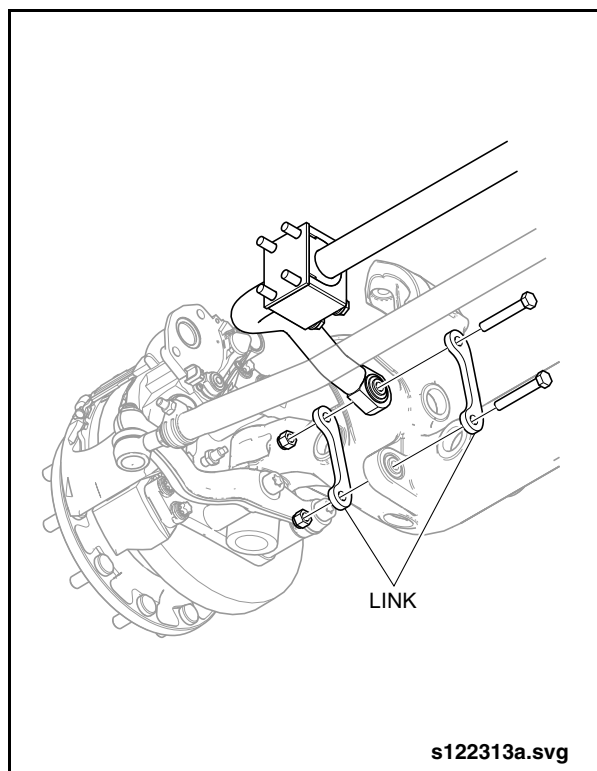

Fig. 2: Disconnecting the Links
2. Disconnect the stabilizer bar from the axle by disconnecting the links at two locations. See “Fig. 2: Disconnecting the Links” on page 4.